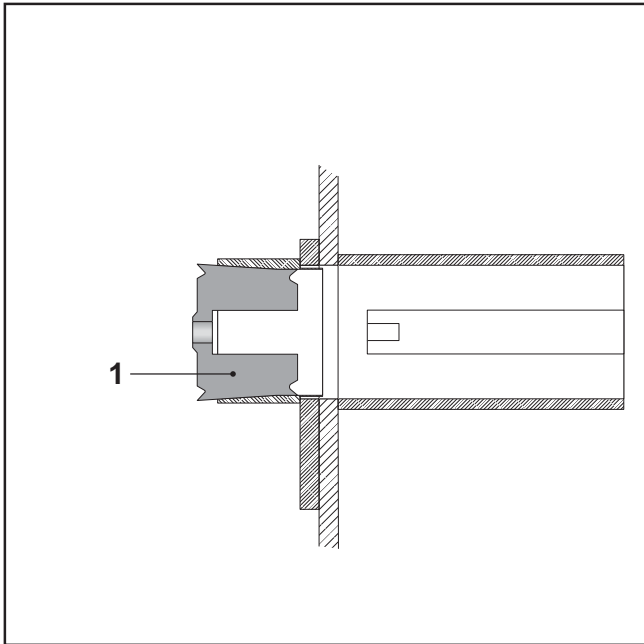

FIG.47
- Introduce the guide ring's cylindrical part (FIG.47).